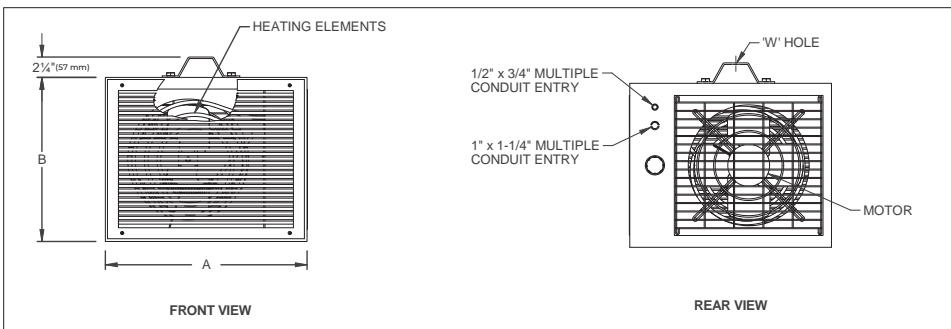
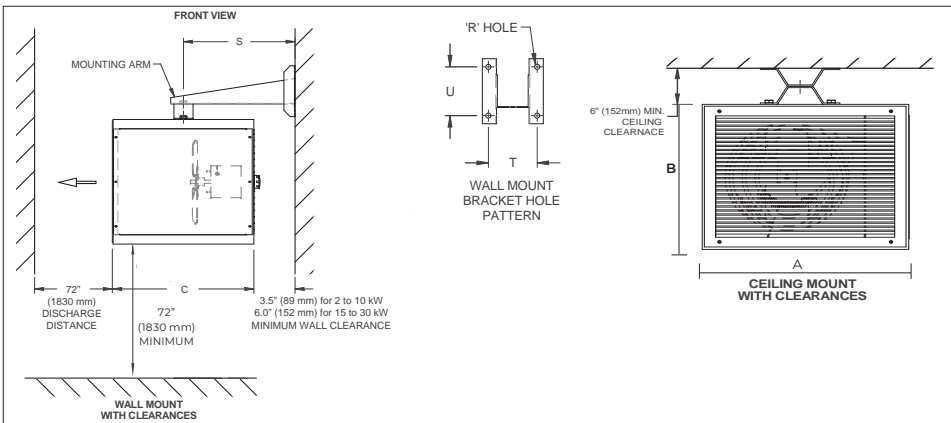

Figure 1
Figure 2 – Mounting Clearance
1. Ensure there are no obstructions that may impede the heater's air inlet or discharge. Refer to Figure 1 and Figure 2, page 4, for minimum clearances.
**WARNING.** Install heater with sufficient clearance to walls and ceiling as indicated in figure 2 on page 4. Mount with bottom of heater no less than 6 ft (1830 mm) above floor or grade.